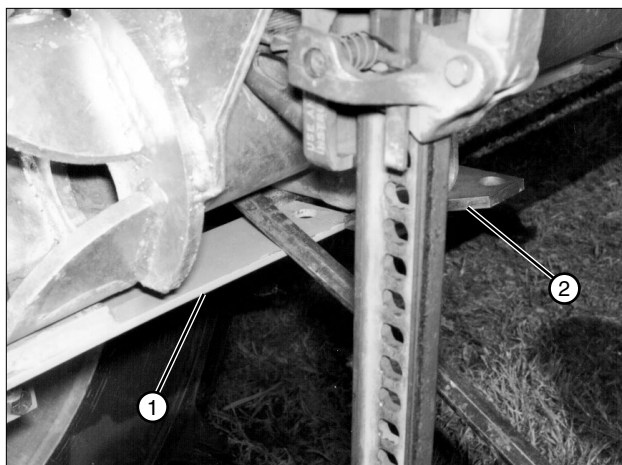

Figure 28-3 1. Steering Arm
5. Make sure the steering arm is latched in the latch plate. See figure 28-3.